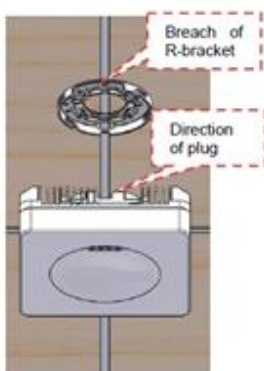
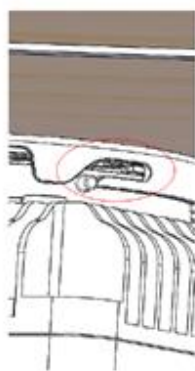
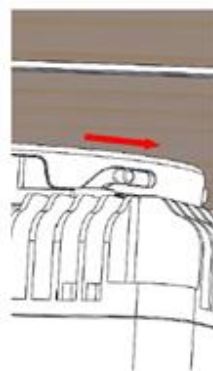

Figure 3-22
Figure 3-23
Figure 3-24
**Step 2.** Connect the power cable and the fiber cable onto the IRU-O module. Align breach of bracket with direction of plug (Figure 3-22). and ensure that the attachment plate is fully inserted into the bracket (Figure 3-23). Rotate clockwise and hear the spring snapping (Figure 3-24). Ensure that the IRU-O module is properly installed.